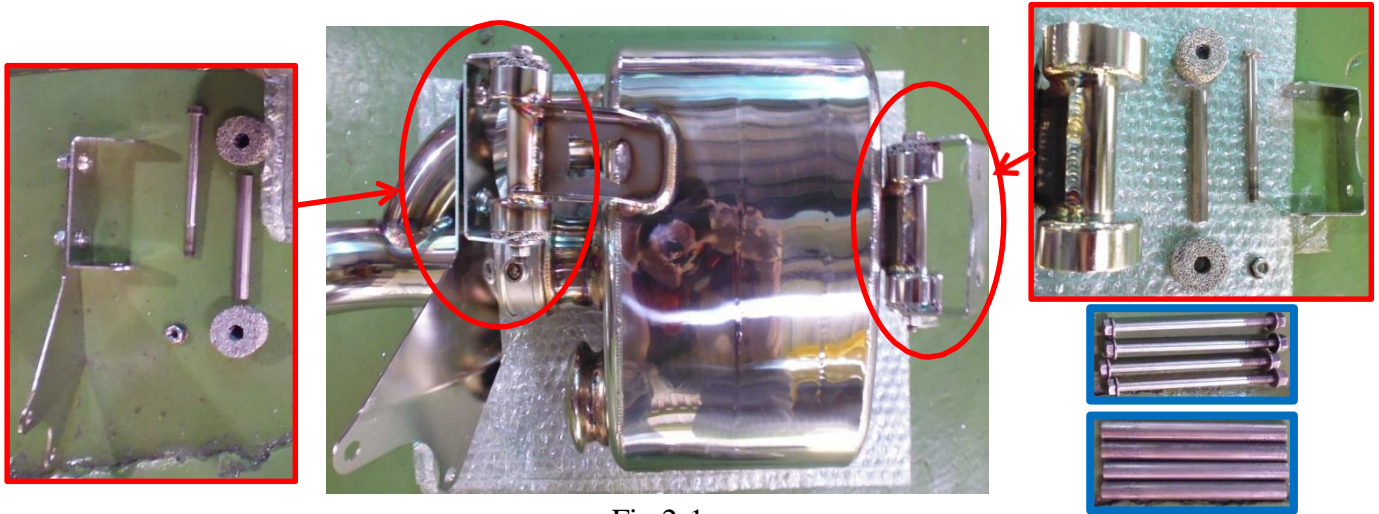

Fig 2-1
1. Assemble the left and right muffler parts on the ground first where showed in red circles. (Fig2-1)